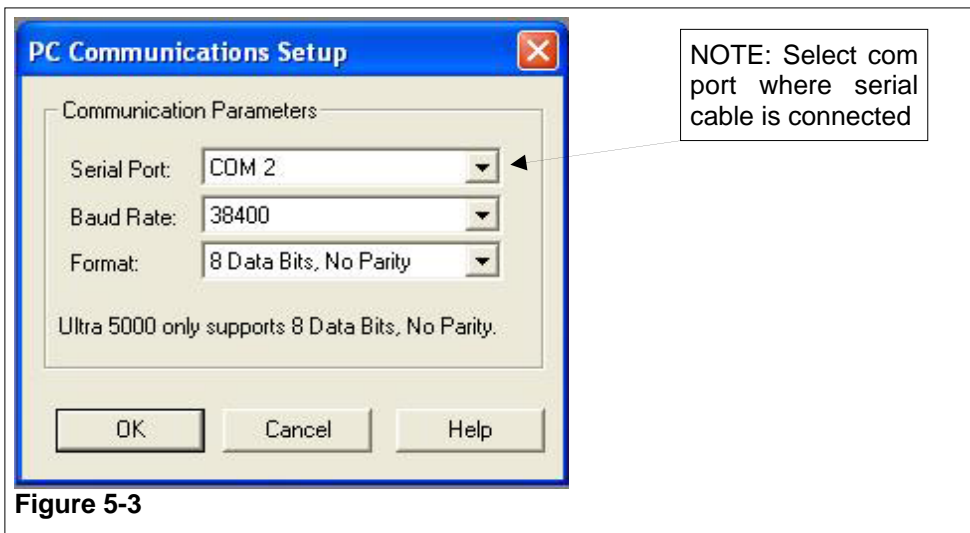

Figure 5-3
- b. Confirm the Communication Parameters (Figure 5-3).